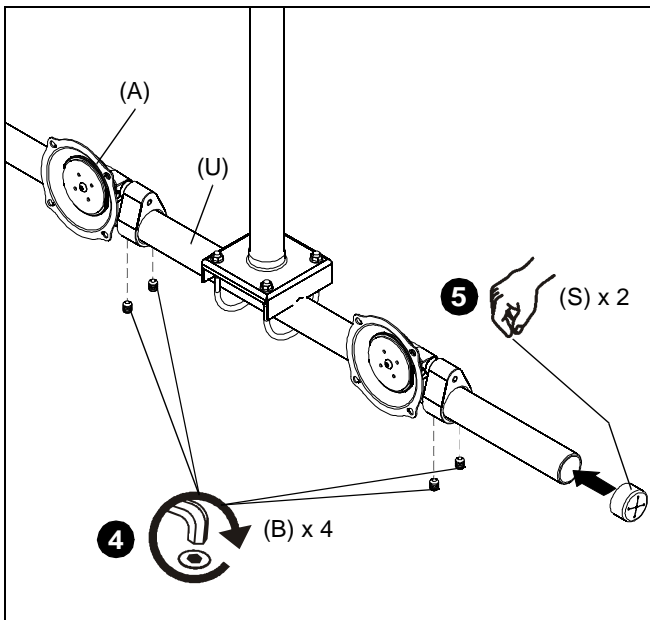

Figure 2
4. When mount (A) is properly positioned secure mount (A) to CMA-048 column (U) by installing and tightening two 5/16-18 x 3/8" set screws (B) into each mount (A) using 3/16" hex wrench (P). (See Figure 2)
5. Place vinyl end caps (S) on each end of column (U). (See Figure 2)